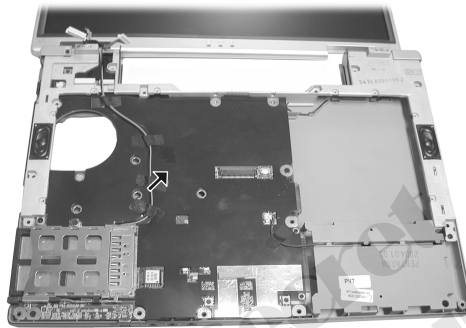

Figure 2-24 Free the LCD ASSY
8. Carefully pull the antenna wires out. Now you can lift up the LCD ASSY from base unit. (Figure 2-24)